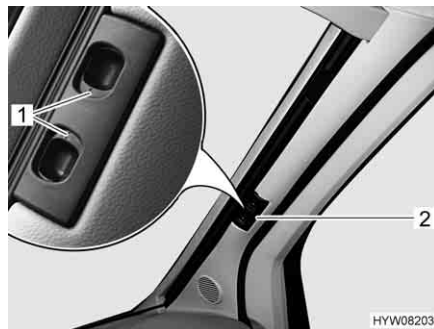

Fig. 91 Roman shade for the windscreen
- Press the release handles (Fig. 91,1) and hold them down.
- Use the handle (Fig. 91,2) to pull the Roman shade for the windscreen towards the centre of the window.
- Use the handle (Fig. 91,2) to pull the two halves of the Roman shade for the windscreen outwards as far as they will go. As you do so, lift the handle up as high as the locking recess.
- Let go of the release handles (Fig. 91,1) and let them engage.